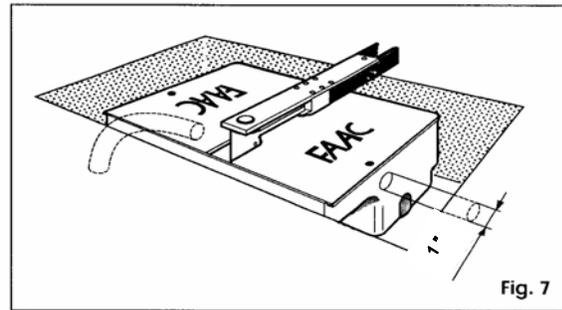

Fig. 7
- 3) Lay down a PVC tube of diameter 1 inch through which to pass a 4 core electrical cable. The tube must reach from the box the control unit. (fig 7). Lay a second tube to drain off water, from box to the nearest drain (fig. 7).